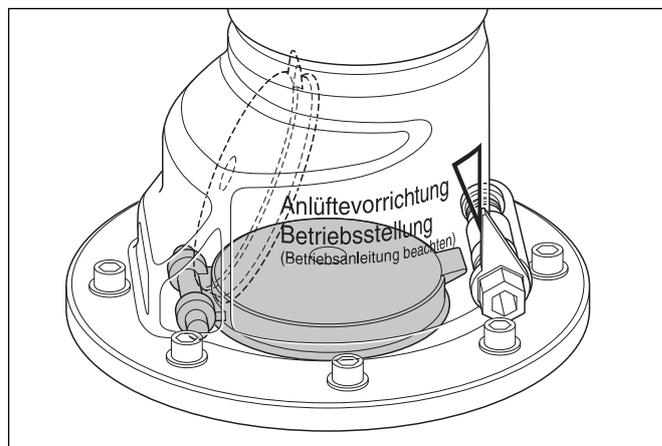

Fig. 3
2) as long as necessary to completely drain any wastewater in the pressure outlet. Then the flap opener must be returned to its initial position which is the marked operating position (see Fig. 3).